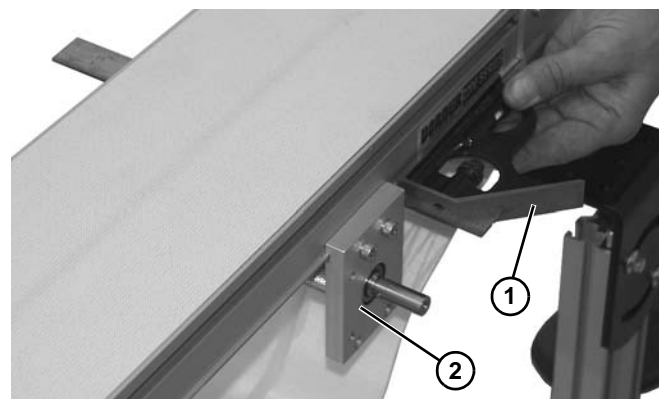

Figure 118
- Be certain to use a square (**Figure 118, item 1**) across mounting blocks (**Figure 118, item 2**), so blocks are aligned to one another, before tightening hardware.